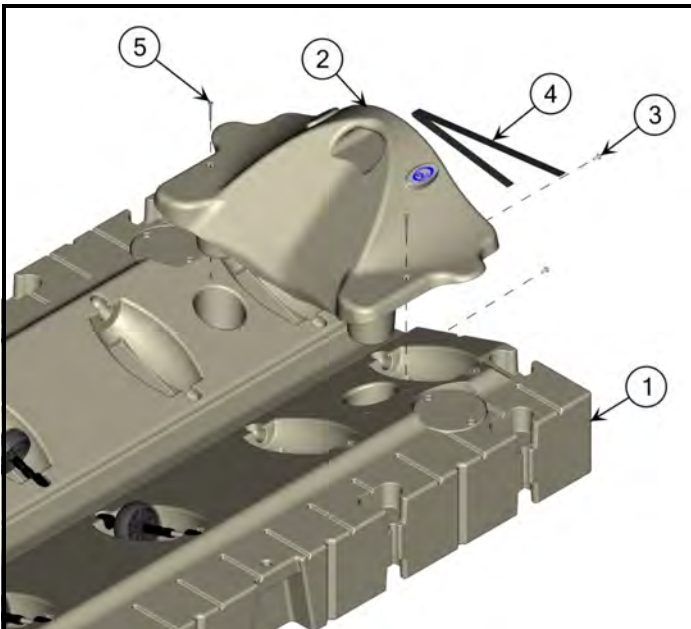

Figure 3.
- The small bow section (Item 2) is an economical way to protect your PWC, (Figure 3). To install, the small bow section is inserted into the holes located near the front of the entry section. Push the small bow section down firmly into the holes and install two (2) bolts (Item 3). When the small bow section is fastened in this way, it will not require Item 3 or Item 4 (Figure 3).
**Step 4:** The small bow section (206025BS-\*\*) is used as a safety bulkhead and barrier between PWC's. For an in-line installation the small bow section is installed between the ports and is used as a removable stop between the PWC's (refer to Page 11, Figure 3). The small bow section can either be fixed in place for single port options or tethered using a nylon tether (Item 4) and two (2) bolts (Item 3). When used on an in-line port application Item 3 and Item 4 are required and the two (2) bolts (Item 5) are omitted.